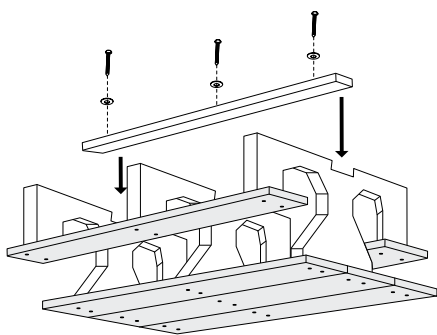

Figure 5
6. Attach base support board into the indent in the plastic base bottom using the 3 1/2" lag screws, washer, power drill and 7/16" socket bit. (See Figure 5)